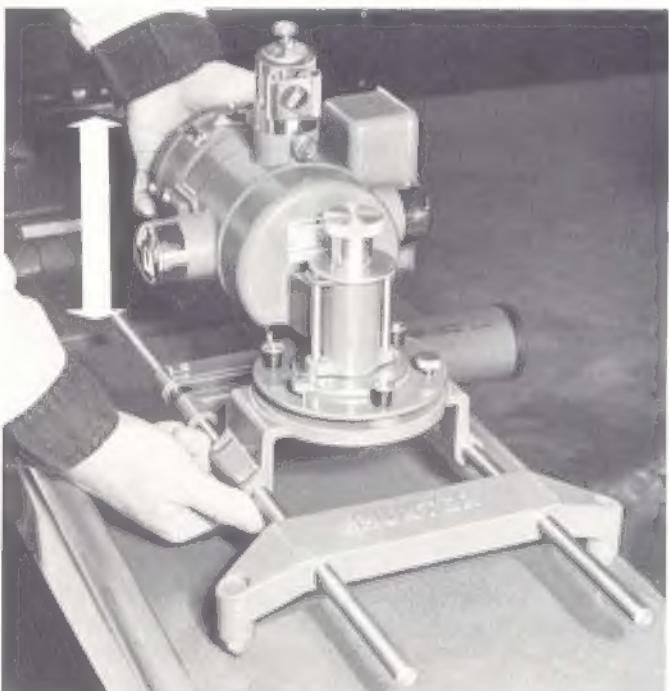

FIGURE 13
- 3. TO CHECK PROJECTOR ADAPTOR ASSEMBLY:** First place projector on the floor or rack and slide **center casting** of projector (See Figure 13) on rods to approximate **center** between top and bottom casting. Check